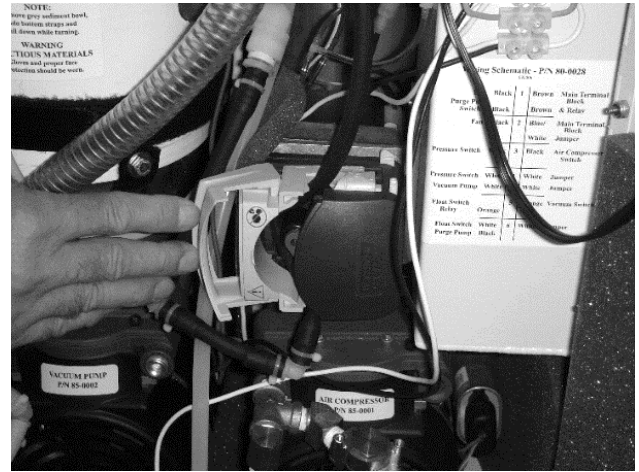

Fig. 2
- 4 Locate the peristaltic purge pump housing and open to access the tubing. (Fig. 2)